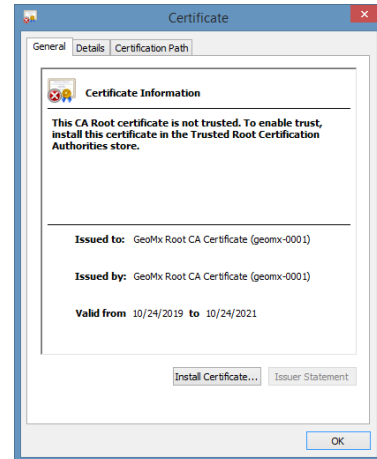

Figure 78: Install certificate window
6. Click the **InstallCertificate** button (see Figure 78).